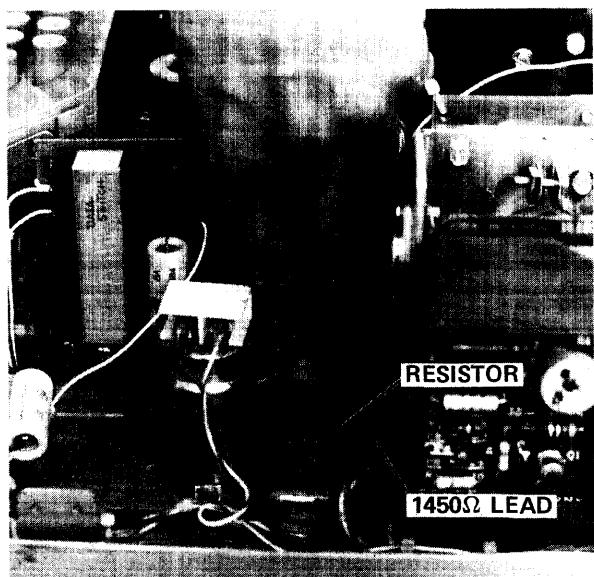

Figure 5. Current Source Resistor
1. The current source resistor value must be changed to 1450 ohms. This is accomplished by moving a single wire. (See Figures 5 and 6.)